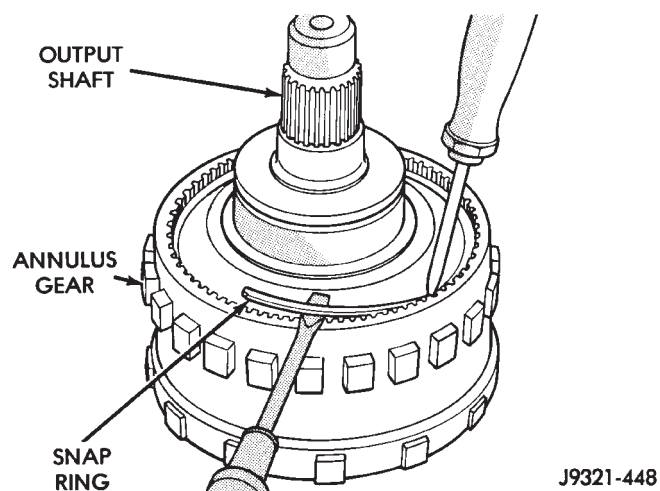

Fig. 31 Removing Annulus Gear Snap Ring
(10) Remove snap ring that secures annulus gear on output shaft (Fig. 31). Use two screwdrivers to unseat and work snap ring out of groove as shown.